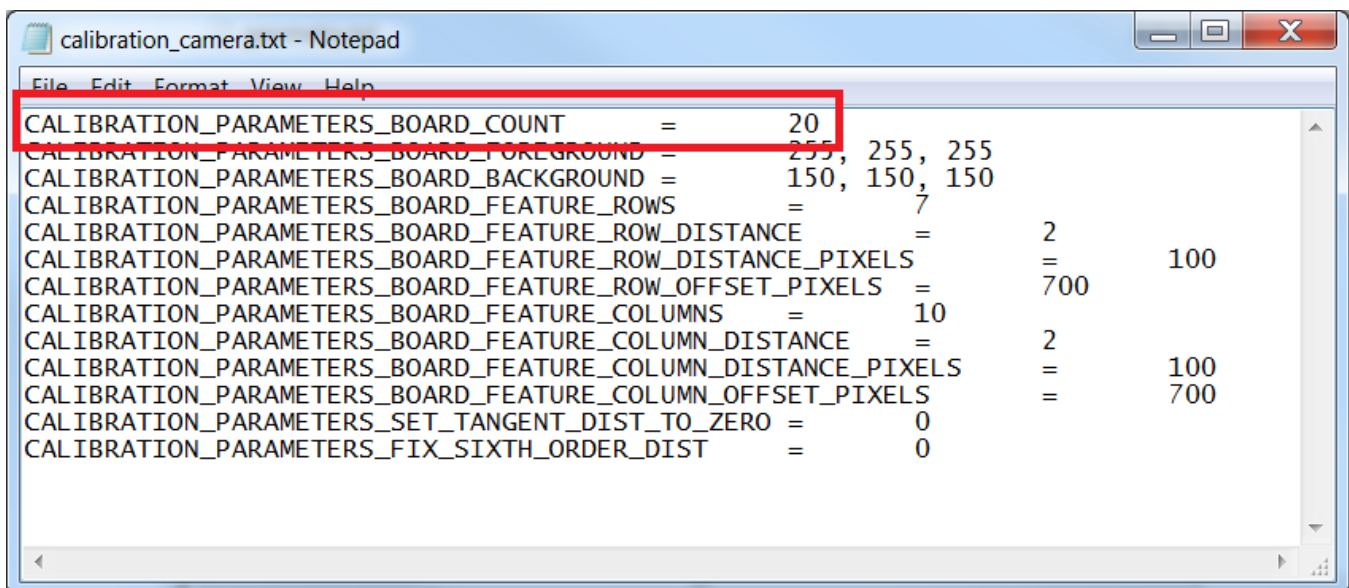

**Figure 3-11. Overexposed Camera Capture**
7. Stop down the aperture as low as possible while still being able to discern the gray and white squares on the calibration board and minimize all sources of glare. Make sure the projection area is in focus, and lock the aperture and focus. An example of an overexposed image is shown in Figure 3-11, and an example of an underexposed image is shown in Figure 3-12.